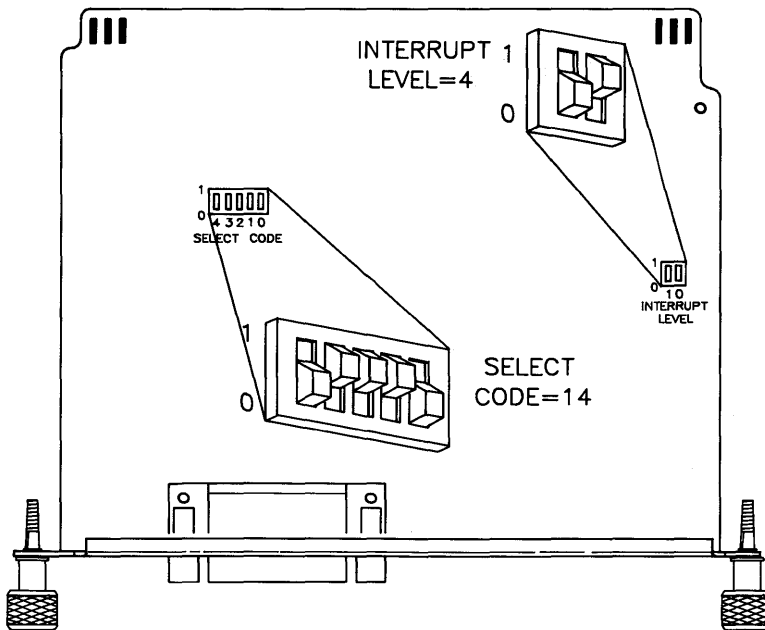

Figure 5-8. HP 98625A Disc Interface switches.
- a. Find the set of five select code switches by referring to Figure 5-8.
- a. Find the Interrupt Level switches by referring to Figure 5-8.
- b. If using HP-UX, set these switches to interrupt level 4 as shown in Figure 5-8. To get interrupt level 4, set the left switch to **0** and the right switch to **1**. **Do not set any other interface to interrupt level 4.**